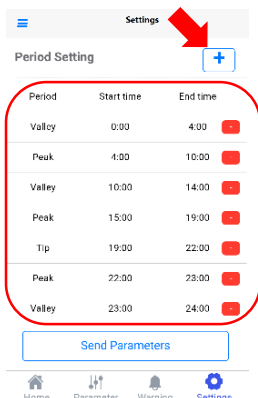

Figure 4-4
STEP 6: Period setting(Figure 4-4).